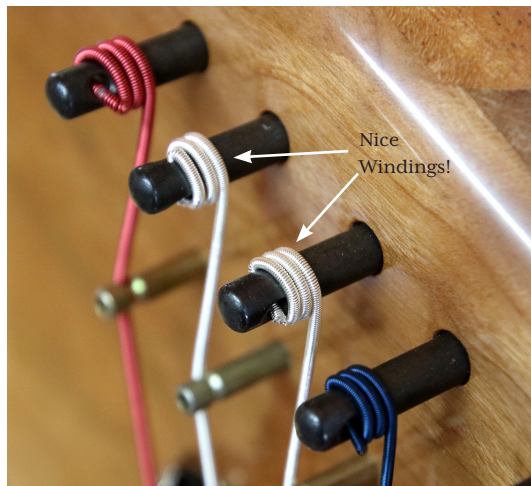

FIG. 5
- ___3. Use the tuning wrench to turn the pin clockwise (from the viewpoint of the back of the tuning pin) and guide the windings neatly around the tuning pin. (fig. 5)